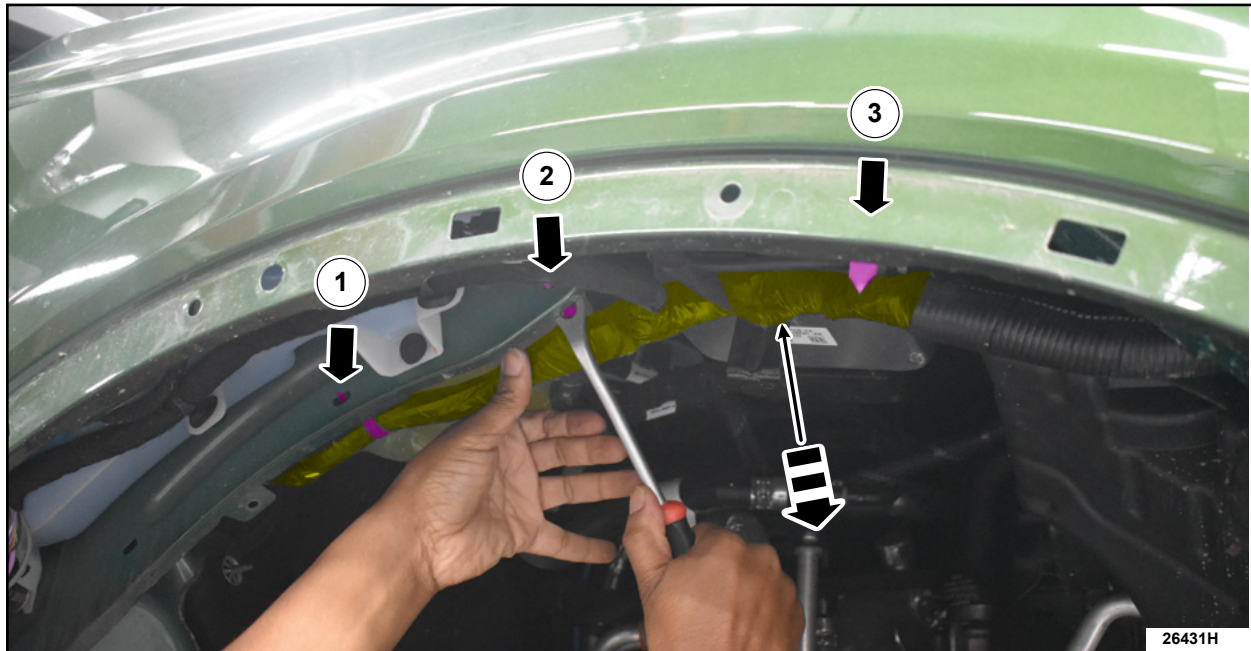

FIGURE 8
15. Remove the 3 retainers to reposition the harness into view. See Figure 8.
16. Starting behind retainer (1) and ending after retainer (3). Inspect the harness for broken wires or signs of chafing. See Figure 8.
17. Starting at retainer (2), inspect the portion of the harness that goes up past the degas bottle.
20. Reconnect the 3 retainers from Step 15. See Figure 8.